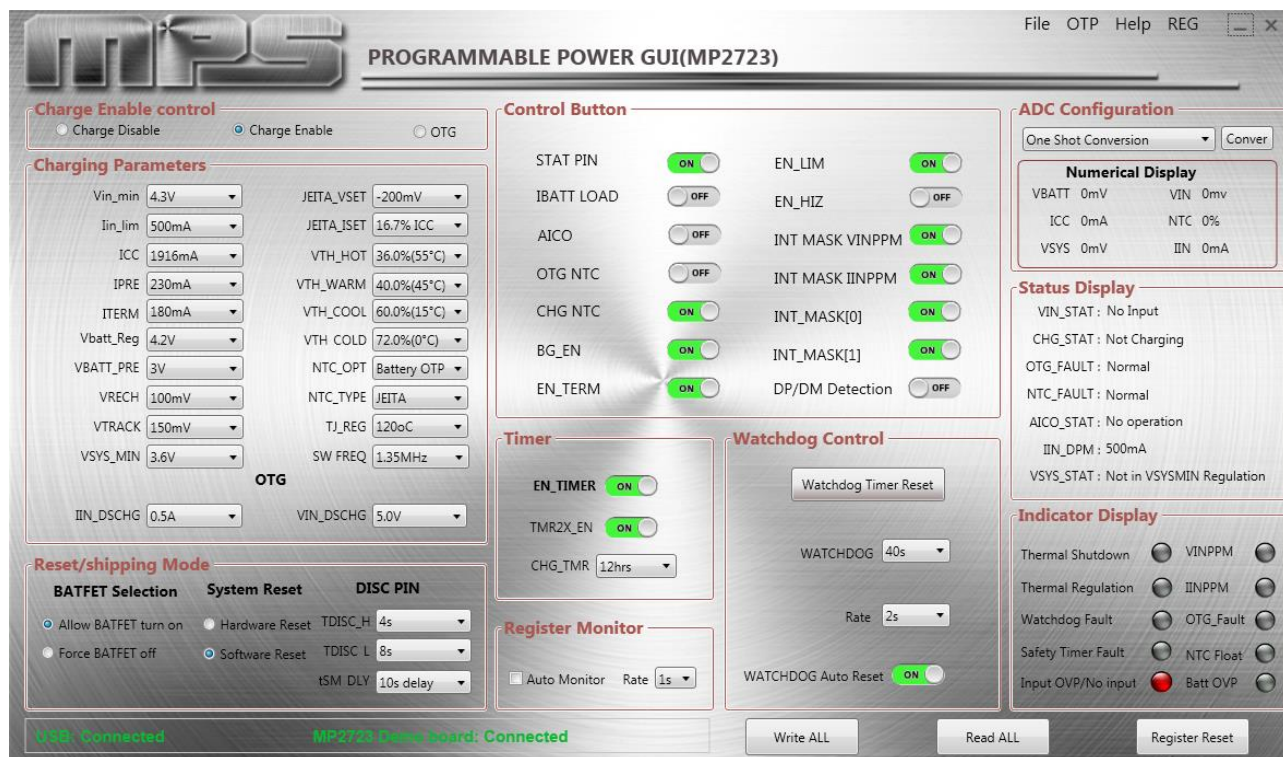

Figure 7: Connected USB and MP2723 Demo Board
- If the connection is successful, both the USB and MP2723 demo board statuses will be listed as “Connected” (see Figure 7).
- 2. Click the “Read All” button to read the I²C register values. The default values are displayed (see Figure 7).